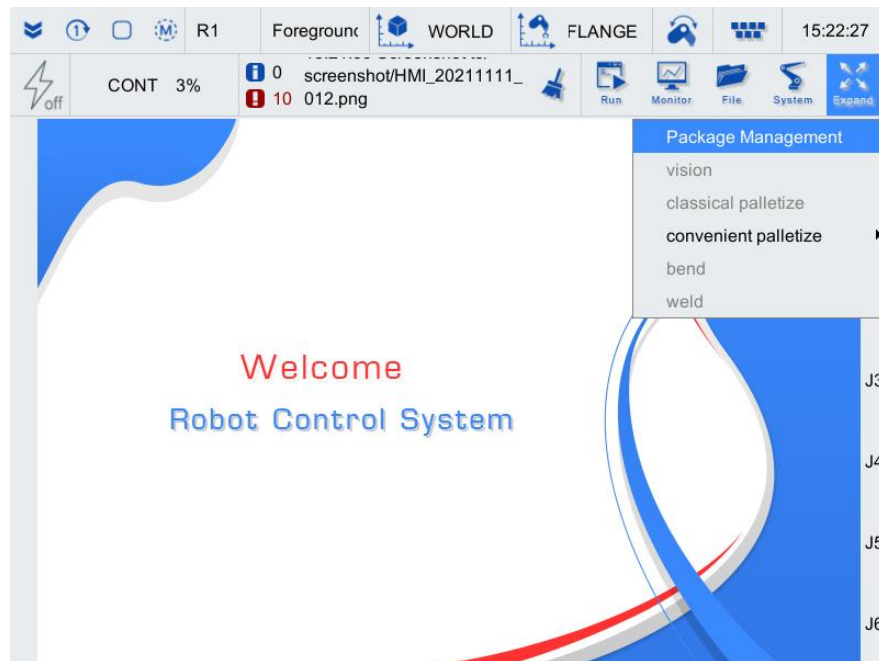

Figure 2-13 Package list
Step1. Click [extend] to open the drop-down list shown in Figure 2-13.